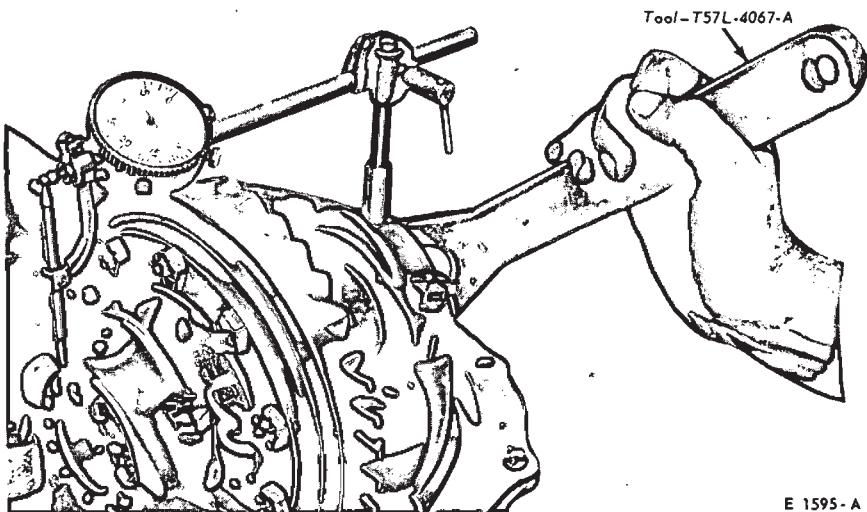

FIG. 14—Adjusting Side Bearing Preload—Typical
To secure a more uniform control of differential side bearing preload in service repairs, a dial indicator set-up such as shown in Fig. 14 is used.
3. Install a dial indicator as shown in Fig. 14.